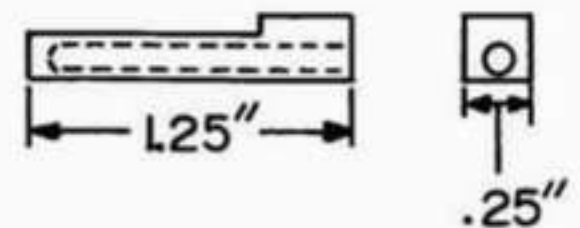

Fig. 4-12 EXTRACTOR POWER BLOCK
both. The spring backed plunger (10) fitted in the front end of one breech block extension and engaged in a notch in the extractor base provides the initial power. Use a 7/64" drill rod for this plunger. The second source to push the extractor all the way back consists of the extractor power block (Fig. 4-12), spring and guide rod. Make the power block from a piece of 1/4" square mild steel to fit between the breech block extensions and between the receiver and the hinge pin with a stop in it to fit below the extractor. Use a 1/8" or slightly smaller medium tension spring and a guide rod to fit.